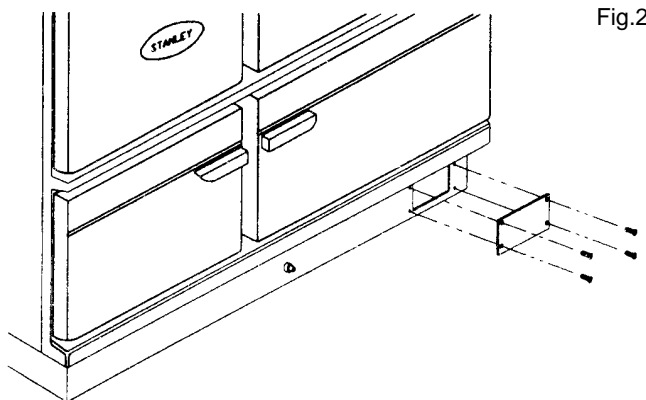

Fig.2
- (b) Replace the cover plate over the air vents on the lower right hand side of the cooker, using the back panel cover plate and replace screws which have been removed. (see fig.2)